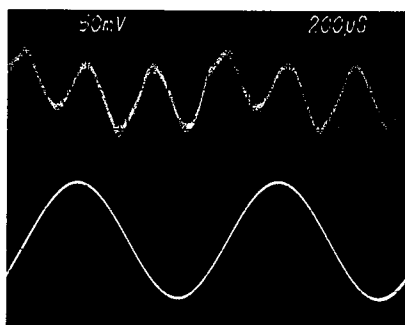

Figure 12-1. UPPER TRACE - distortion analyzer output. LOWER TRACE - tuner output going to distortion analyzer.
4. Set up the distortion analyzer to measure distortion and then adjust the bottom slug of DETECTOR TRANSFORMER (T202—Section 3) for minimum distortion. See figure 12-1.